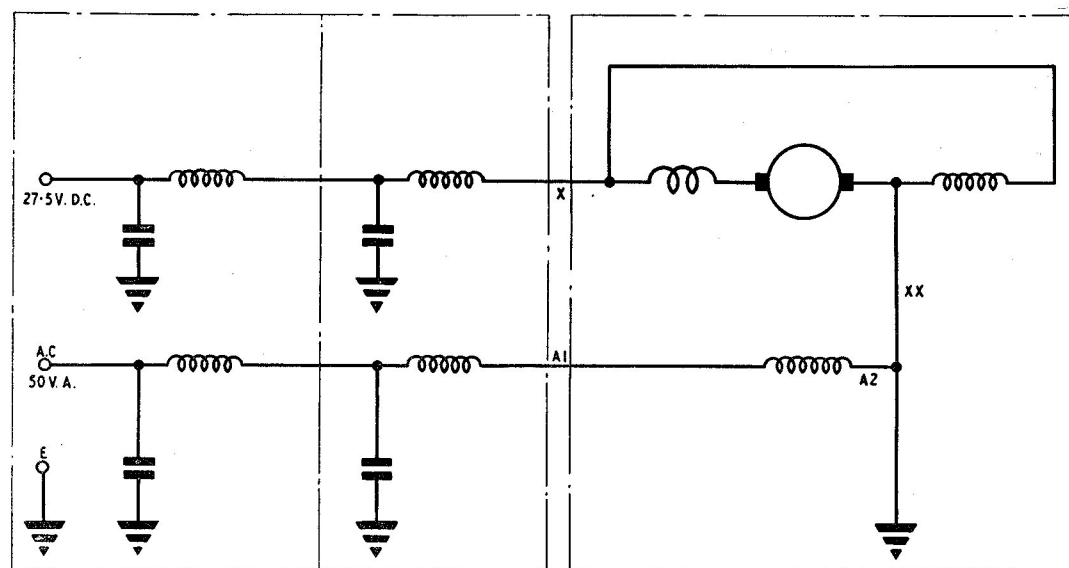

Fig. 3. Circuit diagram
6. The inverter unit is mounted on a base, within which are housed the components of the suppressor unit. A circuit diagram of the inverter is given in fig. 3. A two-way terminal block is fitted at one end of the base, adjacent to the earth terminal. The terminal block is suitable for 4-amp. and 6-amp. cable lugs. The base is fitted with four mounting feet.